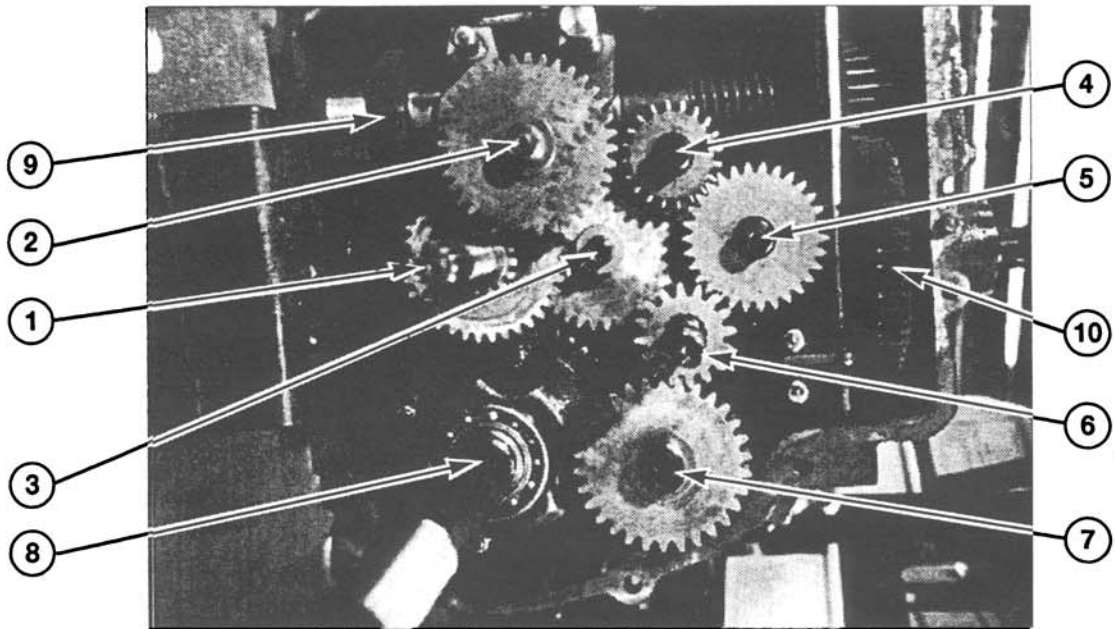

FIGURE 13
1. Remove idler gear assembly and races from #2 shaft assembly. See Figure 13.